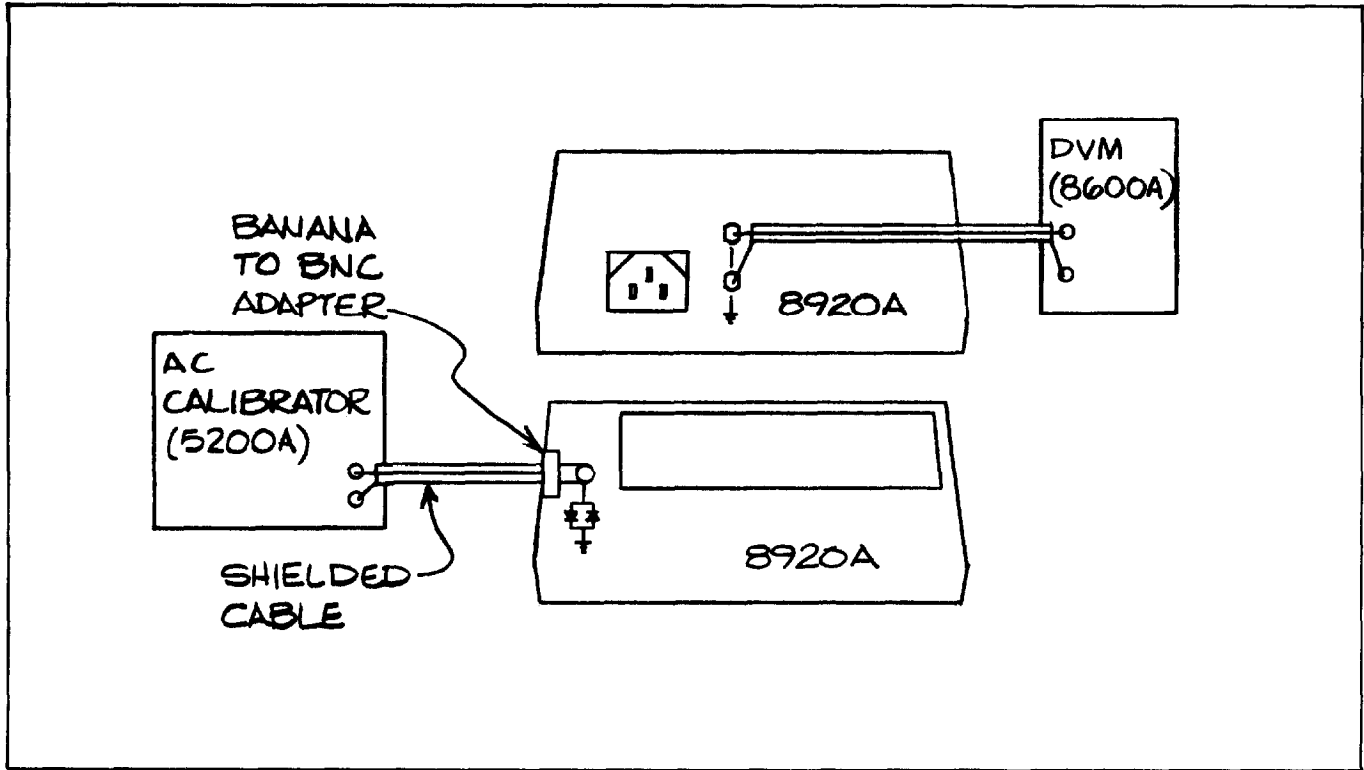

Figure 4-6. Linear Analog Output (8920A only) Test Set-Up
1. Set up the calibration test equipment as shown in Figure 4-6.